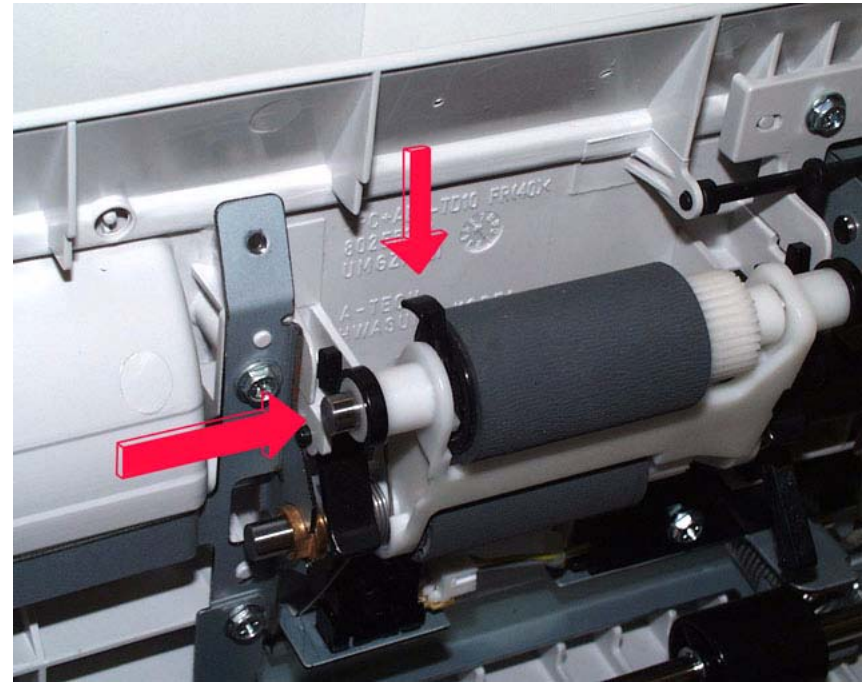

Figure 7 Installing the Nudger Roll, Nudger Roll shaft and locking clip
2. Install the Nudger Roll and Nudger Roll shaft. The shaft is spring loaded so push in the shaft and hold it and install the locking clip. (Figure 7)